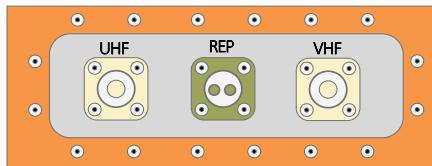

Figure 2:
- Before erecting the antenna mast, attach the other end of the **UHF** coax to the appropriate connector on the bulkhead mount on the back of the fiberglass box. (See Figure 2)